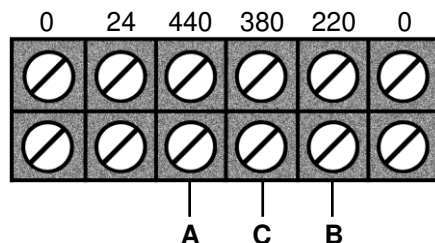

FIGURE 3 - Six terminal barrier (mounted on the top of the control transformer)
2. For 440 volt operation there must be a wire install in position "A" (see FIGURE 3). If the wire is not installed in position "A" remove the wire from position "B" or "C" and reinstall it in position "A".
3. For 220 volt operation the wire must be installed in position "B" (see FIGURE 3)